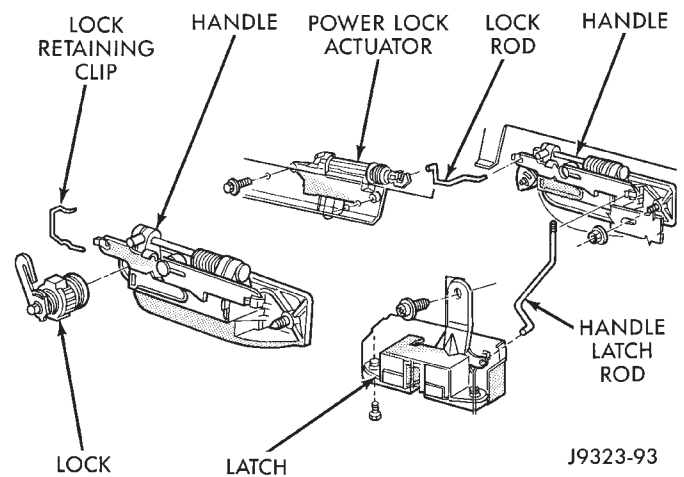

Fig. 26 Liftgate Latch/Lock Component
(1) Raise liftgate. Remove liftgate trim panel. If necessary refer to service procedure.
(2) Remove latch screws (Fig. 26).
(3) Disconnect rod from latch (Fig. 26).
(4) Remove latch from liftgate (Fig. 26).
(5) Remove lock cylinder retainer clip (Fig. 26).
(6) Remove key lock cylinder (Fig. 26).
(7) Remove 2 nuts retaining the liftgate handle.
Remove the handle (Fig. 26).